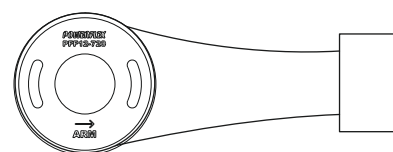

Figure 2
3. Push in both polyurethane bushes into the mount, ensuring to follow the direction engraved on the bush, as shown in Figure 2.